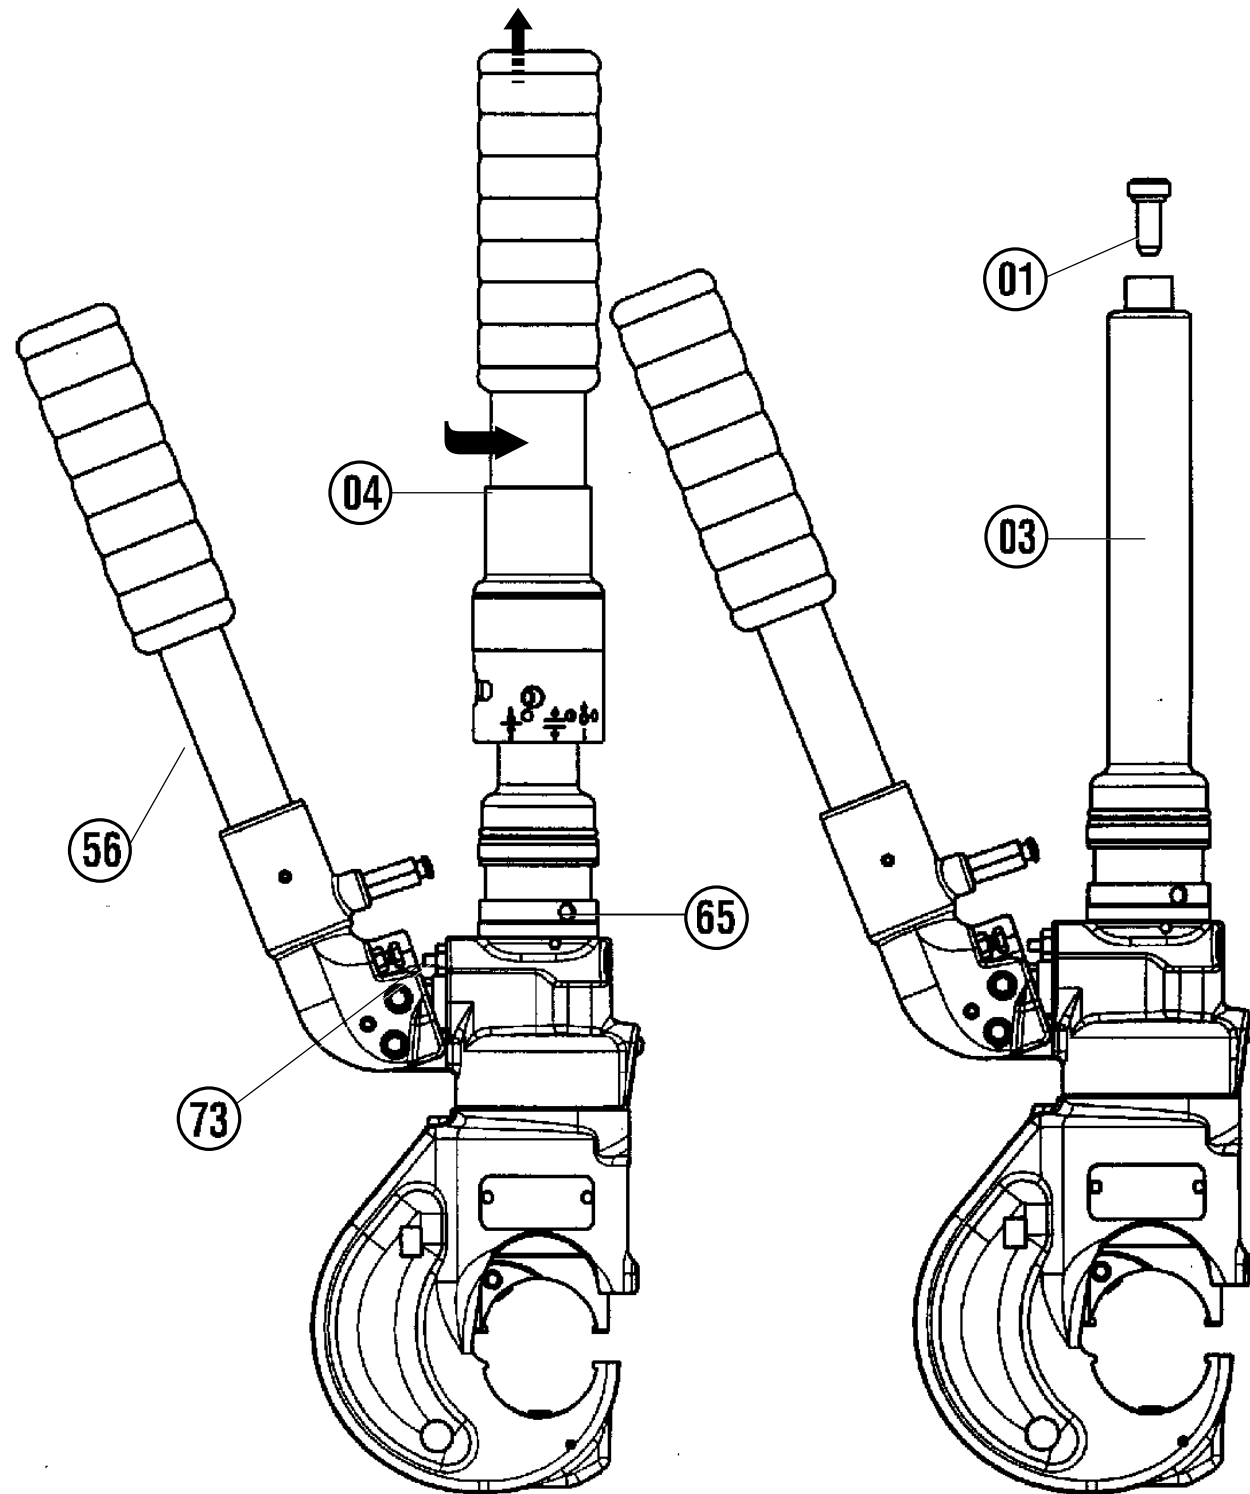

FIG. 4 TOOL POSITION FOR MAINTENANCE OPERATIONS
#### **4. MAINTENANCE** (Ref. to Fig. 4 and 5)
- a** – Hold tool upright in a vice with handles open (Fig. 4).
- b** – By an hexagonal 2,5 mm key, remove screw (65) and main handle (04) to expose oil reservoir (03).
- c** – Remove reservoir cap (01).
- d** – Operate three or four times the moveable handle (56), to advance the ram (28).
- e** – Depress pressure release pin (73) until ram is fully retracted.
- h** – Remove all air from reservoir and fit cap (01).
- i** – Assemble main handle (04), and holding screw (65).